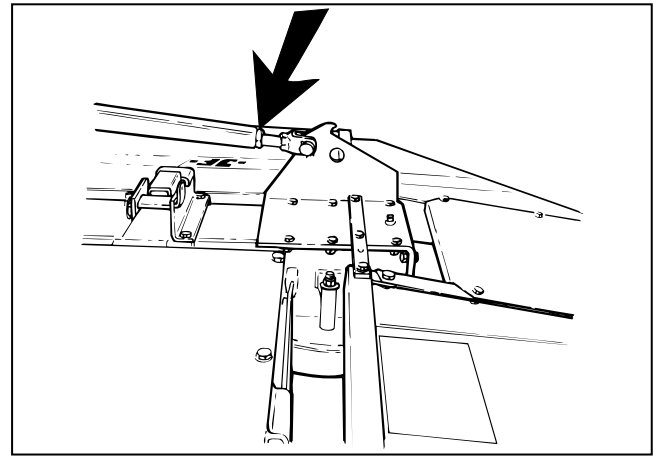

Fig. 7
**FIG. 7** When driving in the field the length of the connection rod **A** is adjusted. So that the outer rotor is lifted a little higher than the inner when the machine is raised by the lift.